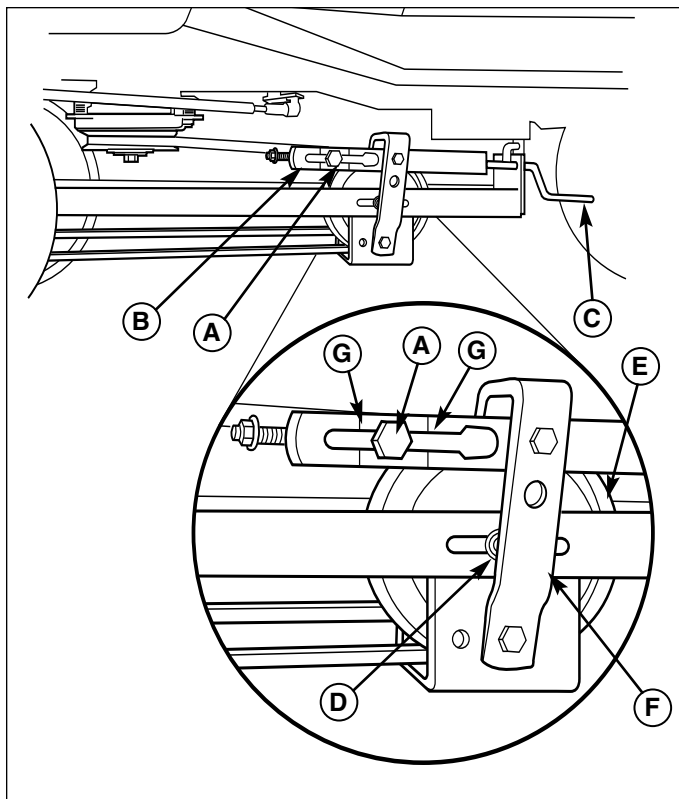
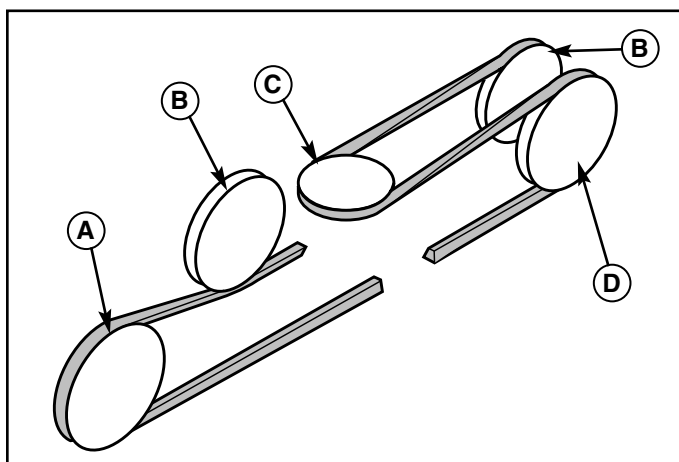

Figure 26. Adjusting Belt Tension
Figure 27. Belt Routing
- Use the trunnion handle (C, Figure 26) to relieve belt tension. Remove the belt from the snowthrower drive pulley (D, Figure 27).
- Route the drive belt as shown in Figure 27. Note that the back of the belt rides in the back-side idler (B).
- With the snowthrower drive belt installed, trunnion (A, Figure 26) should be between the marks (G) on spring tension bracket (B) for correct belt tension. Turn belt tension handle (C) to move trunnion forward or rearward until between marks.